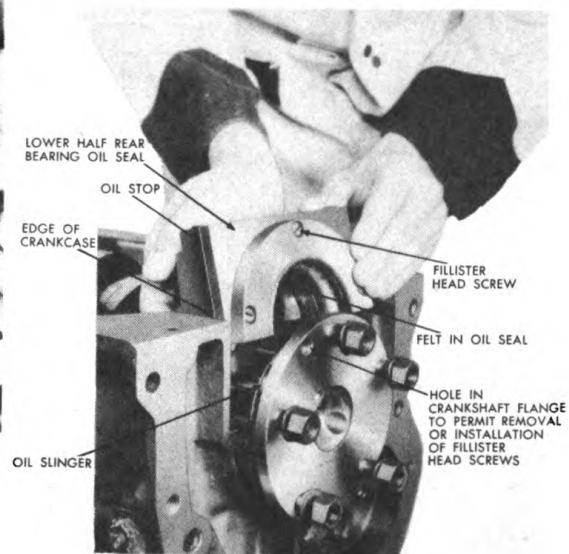

Figure 175. Installing Lower Half of Oil Seal.
5. Carefully lay the crankshaft in place so as not to mar the bearing surfaces. The flywheel bolts should be in place before installing the crankshaft. Note the extra hole in the crankshaft flange. This hole is for the purpose of getting at the fillister head screws in the upper half of the rear bearing oil seal in order to remove the oil seal without having to take out the crankshaft. See Figure 175.
6. Assemble the lower half of the oil retainer seal onto the rear bearing cap. See Figure 175. Be sure to put the copper gasket under the center fillister head screw. Before installing the cap with the bearing and the lower half of the oil seal assembled to it, be sure to check the position of the upper half of the oil seal in regard to the crankshaft as instructed in Step 4. If not correct, adjust it as indicated. **NOTE:** New oil stops should be installed on the cap. These oil stops seal the sides of the cap to the crankcase and prevent oil from leaking through.